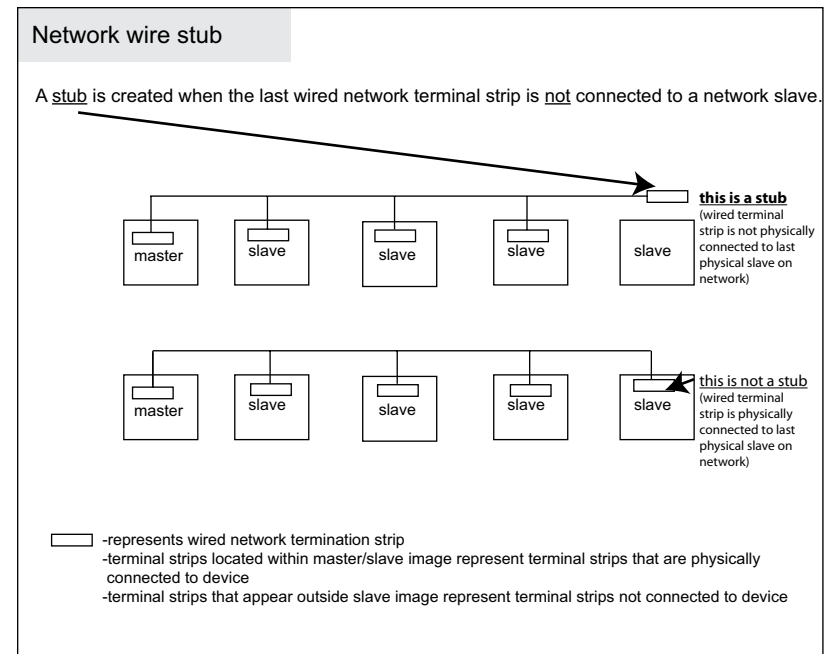

Figure 3.26
- * A stub is created when the last wired network terminal strip is not connected to a network slave - figure 3.26. (Common lettering references are used for both 5400 and 5500 models).
- **A stub is created when the last wired network terminal strip is not connected to a network slave - figure 3.26.